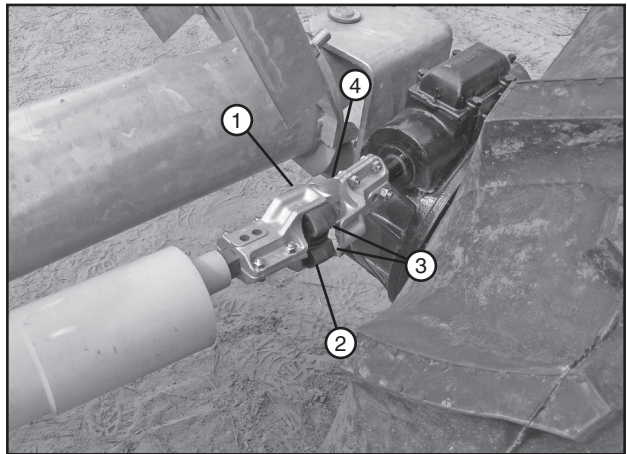

Figure 40-2 1. Drive Shaft U-Joint Half
6. Push the tire toward the operating position while aligning the drive shaft u-joint half and flex joint chamfered corners with the wheel gearbox u-joint half. See figure 40-2.
Continue pushing the tire toward the operating position with enough force to push the gearbox u-joint half over the flex joint and latch the steering arm in the latch plate. See figure 40-2.